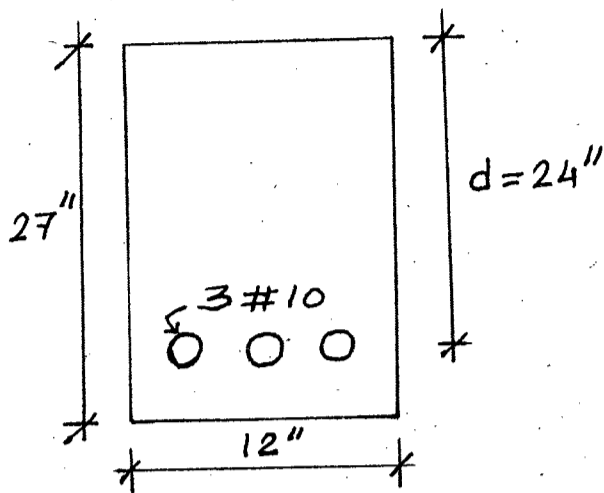

Fig. 1
1. (a) What are the sources of uncertainties in analysis, design and construction of RC structures? Discuss how safety is ensured against these uncertainties in USD method. (8)
- (b) Discuss the behaviour of reinforced concrete rectangular beam in flexure under increasing load by drawing neat sketches for strain and stress distribution of uncracked, cracked and ultimate conditions. (9)
- (c) A singly reinforced RC beam section, as shown in Fig. 1, has a width of 12 in. effective depth of 24 in. and total depth of 27 in. The tension reinforcement consists of three No. 10 bars in one row.